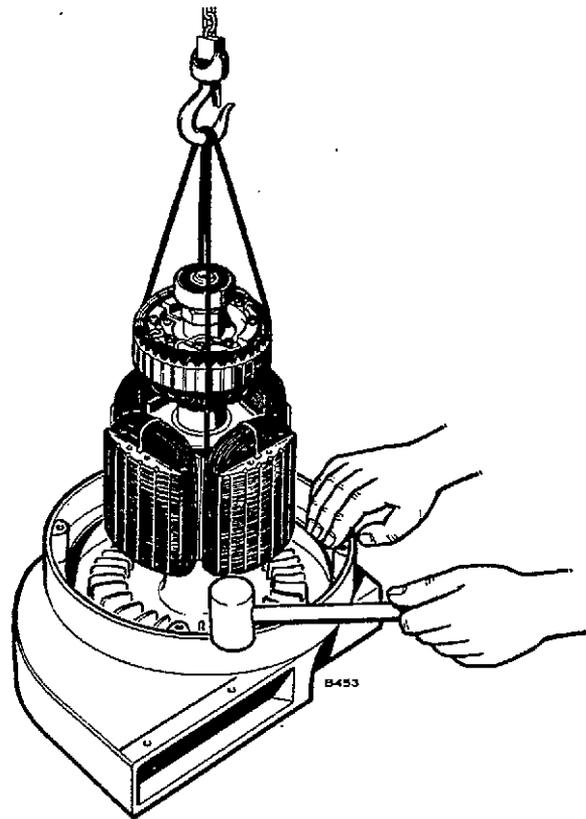

FIGURE 63. ROTOR AND FAN REMOVAL
- Remove rotor and fan by using a soft-faced hammer to tap on the adapter while holding the rotor assembly about one inch above bench with a hoist and rope sling, Figure 63.